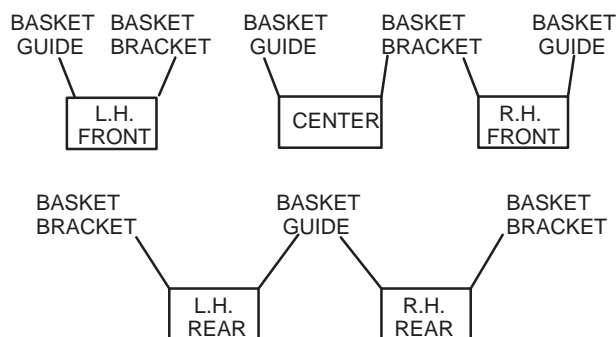
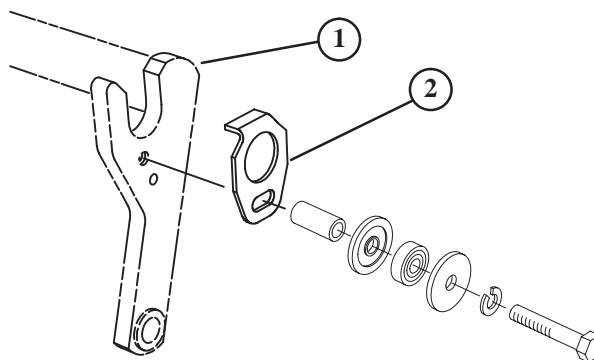
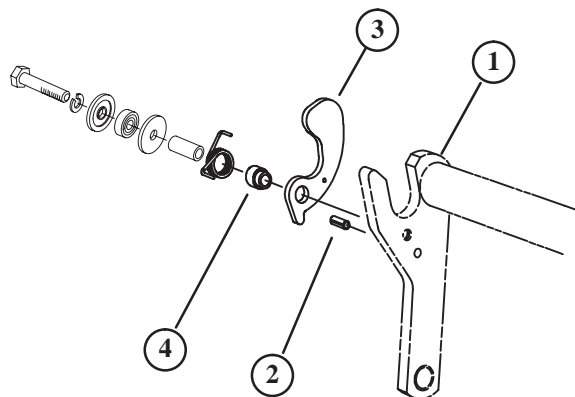
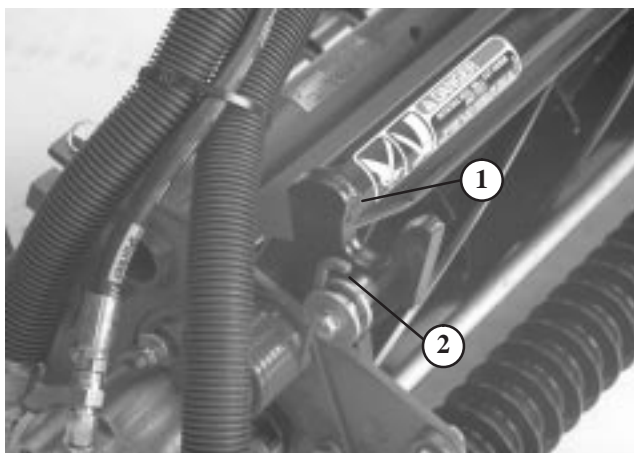

Figure 5
Figure 6
Figure 7
Figure 8
2. If baskets will be installed, use chart below (Fig. 5) to determine locations at which basket guides or basket brackets must be mounted to cutting unit carrier frames. If baskets are not to be installed, proceed to step 7.
3. Remove hardware securing Turf compensation kit to each end of carrier frame (Fig. 6 and 7) and reuse when installing basket guides and basket brackets (Cutting unit models 03506 and 03509 only).
4. Mount a basket guide (Fig. 6) to the appropriate side of each cutting unit carrier frame (see Figure 7) with a capscrew (5/16 x 1-3/4 in.), flat washer, and lock washer or fasteners previously removed, as shown in Figure 6.
5. Install a roll pin (Fig. 7) into hole in appropriate side of each cutting unit carrier frame (Fig. 5).
6. On the same side of carrier frame as roll pin is installed, mount a basket bracket with a capscREW (5/16 x 1-3/4 in.), lock washer, flat washer, torsion spring, basket collar, or fasteners previously removed, as shown in Figure 7. Torsion springs are different for left-hand and right-hand sides of carrier frames. There are 2 left-hand and 3 right-hand springs. Longer leg of spring is to be positioned forward as shown in Figure 8.